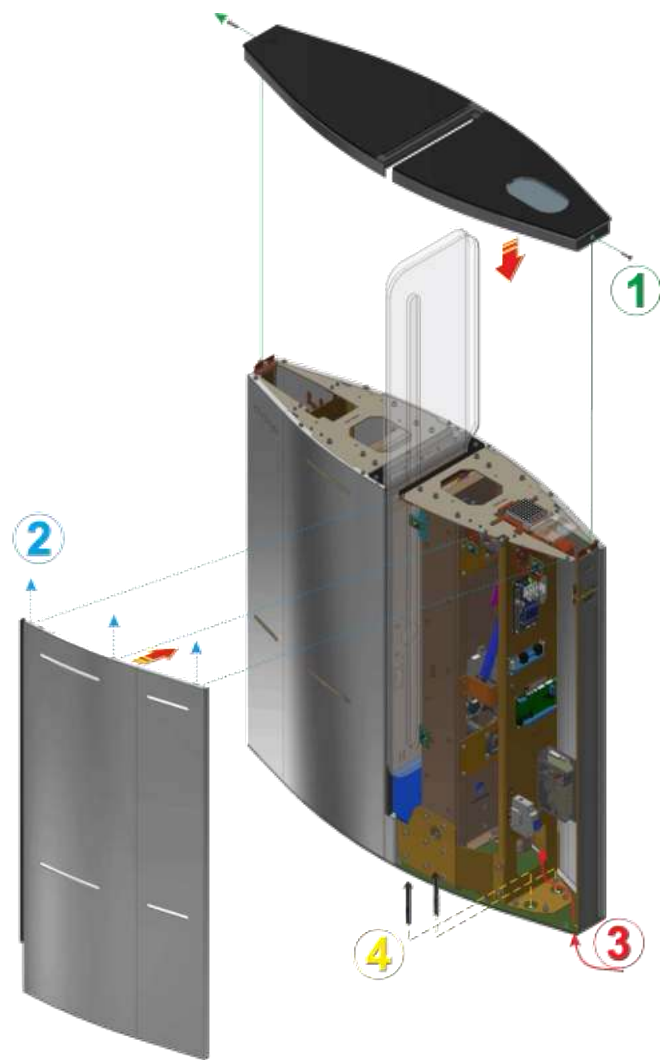

Fig. 19 – General view of the “JetPan-BM-1” turnstile cabinet installation
1. – remove the turnstile lid by unscrewing screws on the ends (See Fig. 19);
After the necessary installation, install the doors and side panels (Fig. 19) on their attachment points, fix the top lid with screws.